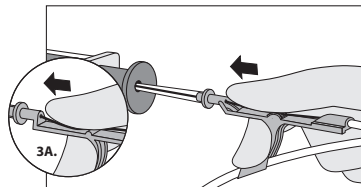

Figure 3
11. If using Arrow GlideWheel Advancer, advance guidewire through the Arrow® Raulerson Syringe or through the introducer needle by pushing advancer wheel and guidewire forward (refer to Figure 3). Continue until guidewire reaches desired depth.